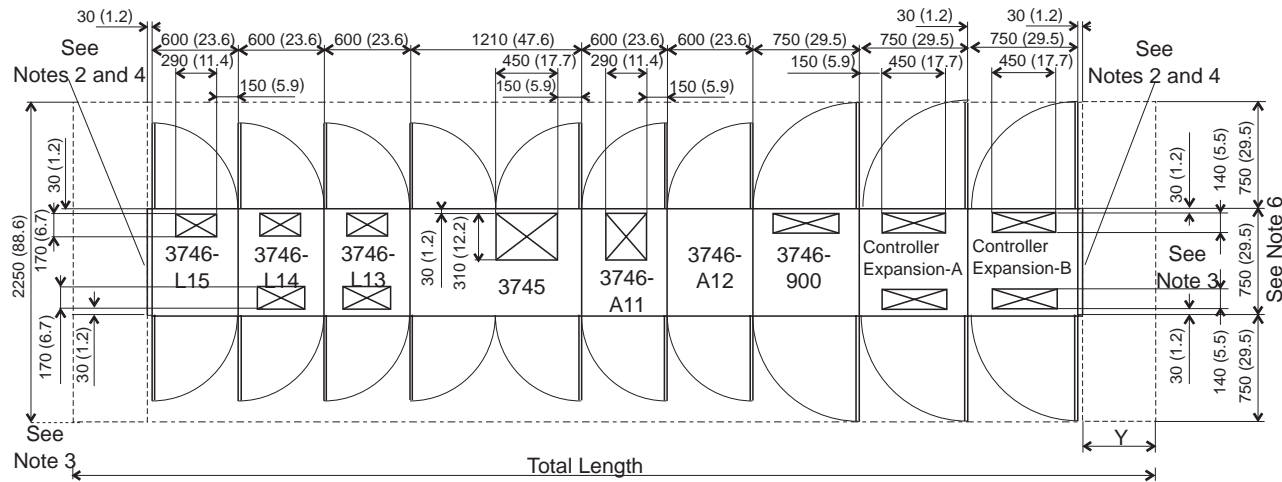

Figure 1-3. Plan View of a 3745-X1A/3746/3746-900/Controller Expansion Configuration
- Step 9. ____ Make sure that the installation area is in accordance with Figure 1-3 on page 1-9, or with Figure 1-5 on page 1-10. If not, inform the customer.